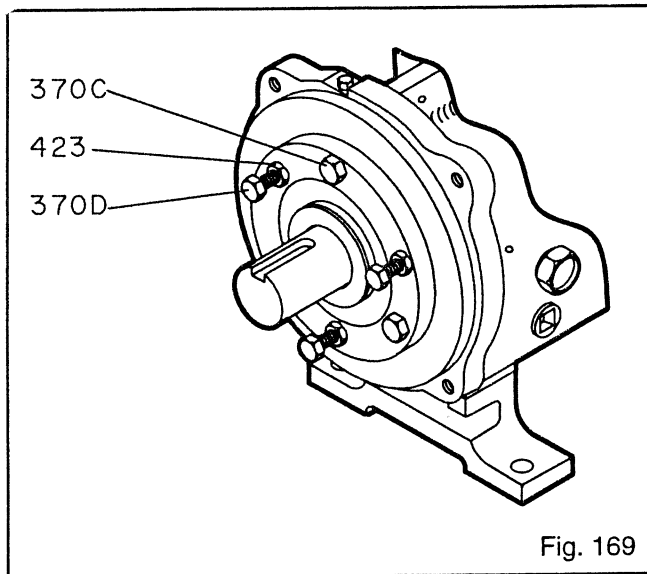

Fig. 169
- Loosen clamp bolts (370C), and jacking bolts (370D) (Fig. 169). Measure gap between impeller (101) and seal chamber/stuffing box cover (184) with a feeler gauge. When 0.030 in. (.76 mm) clearance is reached, tighten clamp bolts (370C), jacking bolts (370D), and locking nuts (423) (Fig. 169).